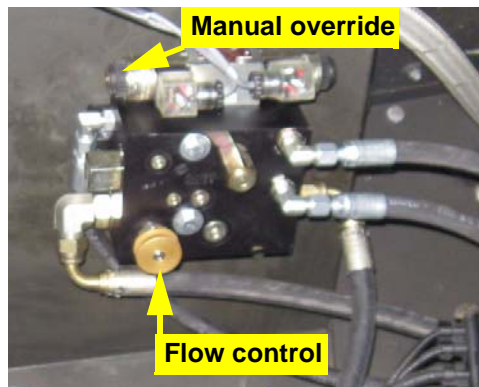

Figure 9: Steering block manual override and flow control
- Turn counter clockwise to increase flow. (Figure 9).
- e. The coils on the Automated Steering Block have manual push button overrides. Push either manual override to move the steering wheels all the way to one extreme (Figure 9).
- f. While pressing the override button of the other coil, count the number of seconds for the steering wheels to move all the way in the opposite direction (Figure 9).